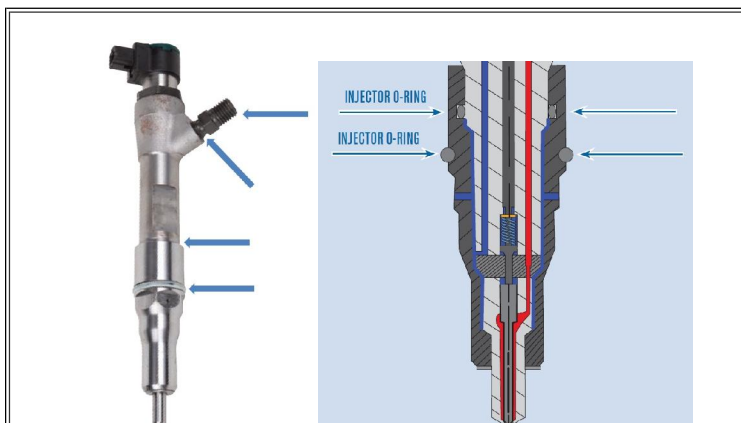

Figure 4: Injector Leak Locations
7. Inspect around the base of the injectors for any signs of fuel leaking past the o-rings. See Figure 4 for most likely leak locations.